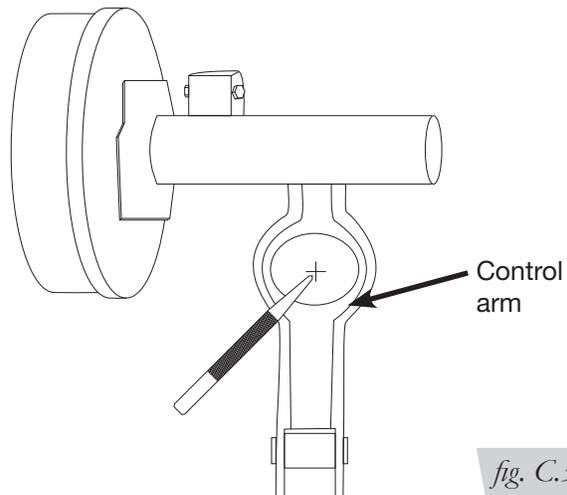

fig. C.3
5. Center punch and drill 1/4" (6mm) diameter pilot hole then drill 3/8" (10mm) diameter final hole to allow attachment of the air line to the air cylinder (Fig. C.3).